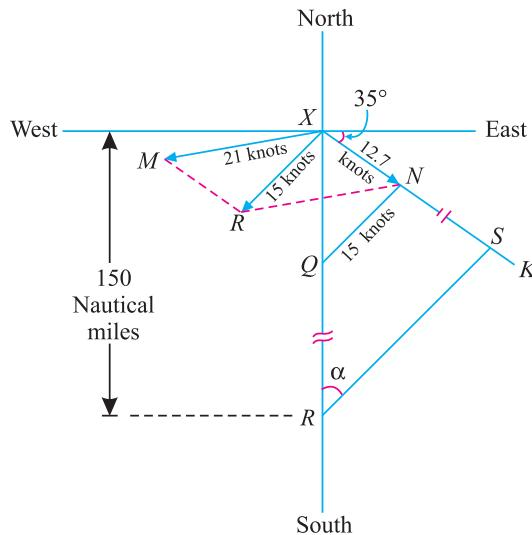

Fig. 19.9.
- Now cut off XR equal to 150 nautical miles on the line representing the South direction (because the warship is stationed 150 nautical miles south of the submarine) to some other scale. Through R, draw RS parallel to the line QN meeting the line XK at S as shown in Fig. 19.9.